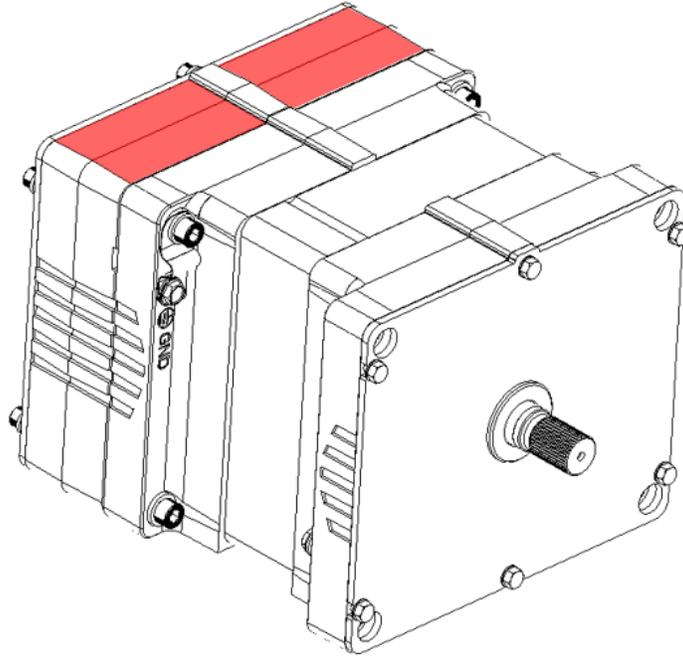

Figure B-1. ProAct Gen3 FLEX Accelerometer Locations (red) for Determining Vibration Levels On the Electronics Housing
4. Take at least one measurement on the electronics housing of the actuator. The areas shown in red on the casting surface in Figure B-1 are preferred.